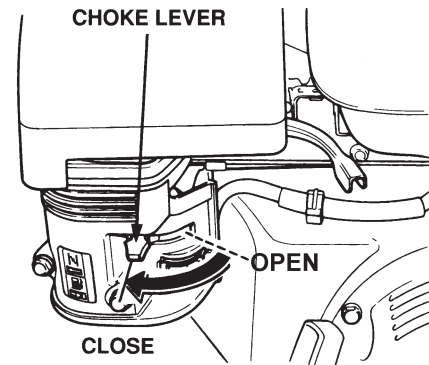

Figure 13. Choke Lever
2. To start a cold engine, move the choke lever (Figure 13) to the **CLOSED** position.